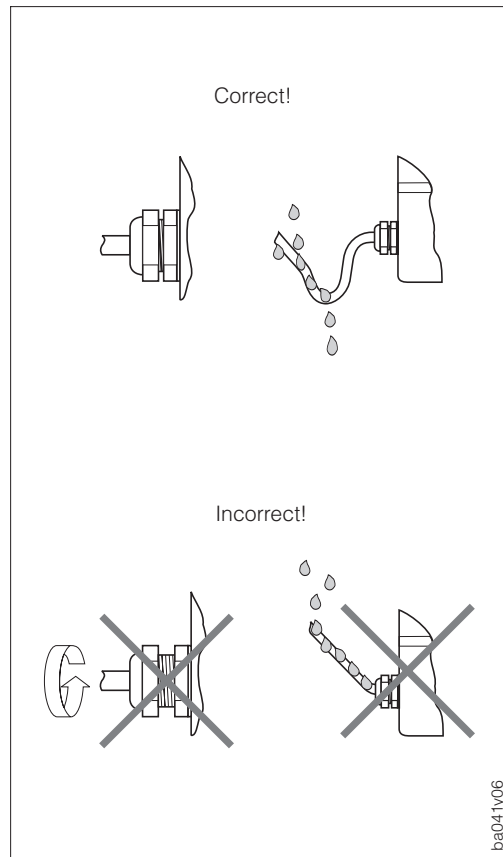

Fig. 18
- The cable gland must be tightened firmly (see Fig. 18).
- The cable must loop down before entering the cable gland to ensure that no moisture can enter it (see Fig. 18).